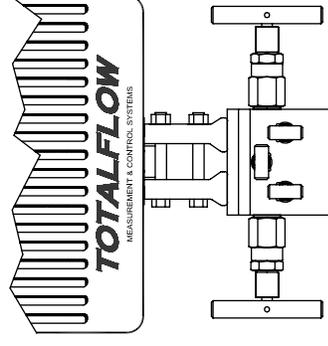

Figure 3 Typical Manifold Mount
5. Mount manifold to bottom of unit; Right port of unit is NORMALLY high pressure (upstream side). Check the AMU model number to see if it is designed for flow from left to right (4CYC) or right to left (4AYC). You can also look on the transducer for (H or +) for high side and (L or -) for low side. For direct mount manifolds, the direction is very important. (See Figure 3 for a typical manifold configuration)